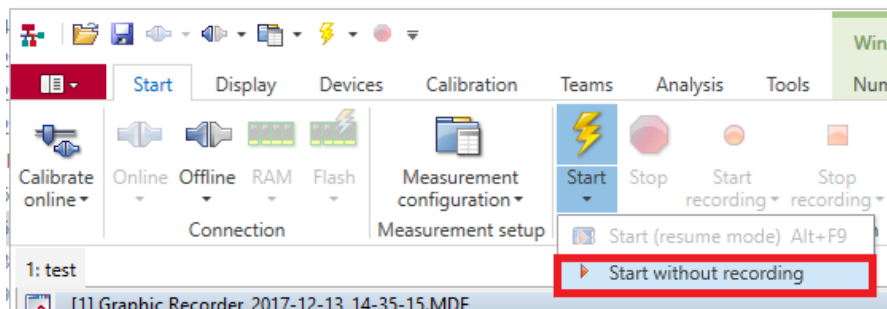

Figure 3-27: Start data transfer
- After pressing on *Start without recording* again (see Figure 3-27), data will be transferred from OXYGEN to CANape and the recording state of OXYGEN can be edited by CANAPE as well via the *Parameter* window.